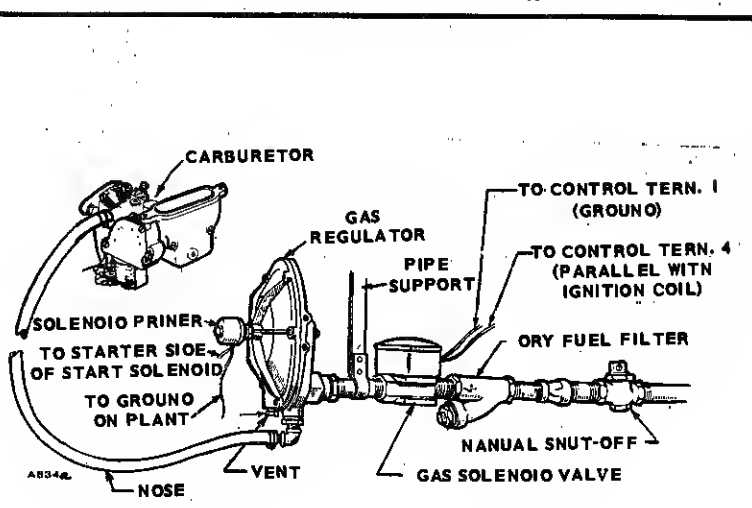

FIGURE 5. GASEOUS FUEL SYSTEM
**Options:** A combination gasoline-gaseous fuel carburetor or straight gaseous fuel carburetors are available for use with gaseous fuels. A gaseous fuel system uses a fuel regulator (Fig. 5) to control the flow of gas from the lines to the carburetor. At the carburetor, the gaseous fuel is mixed with the incoming air.